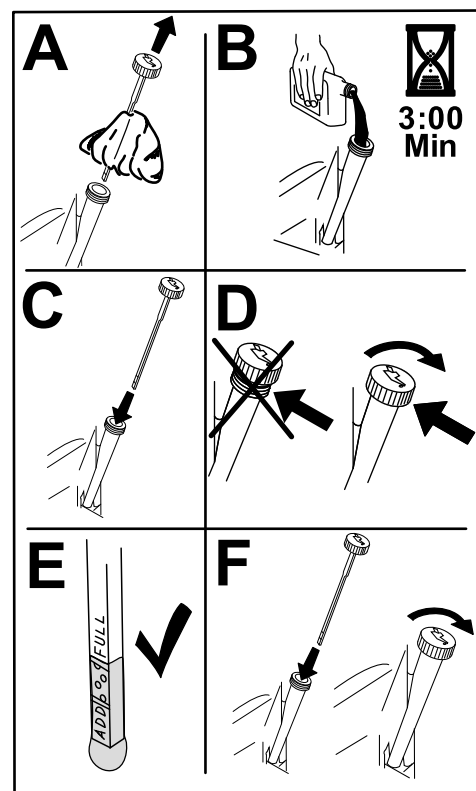

Figure 38
- Slowly pour approximately 80% of the specified oil into the filler tube and slowly add the additional oil to bring it to the **Full** mark (Figure 38).